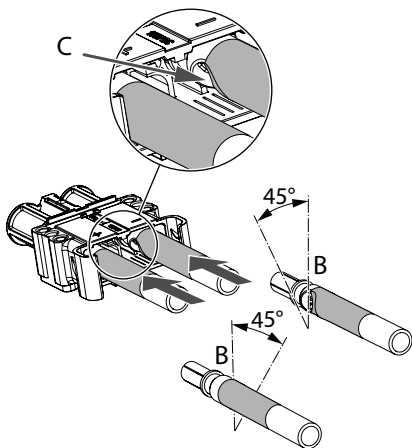

Fig. 43:
1. Turn the crimp area (B) to about 45° from vertical (Fig. 43/B).
2. Push in the main contacts so that the crimping area points downwards at an angle towards the inside of the socket, as shown in (Fig. 43/C).